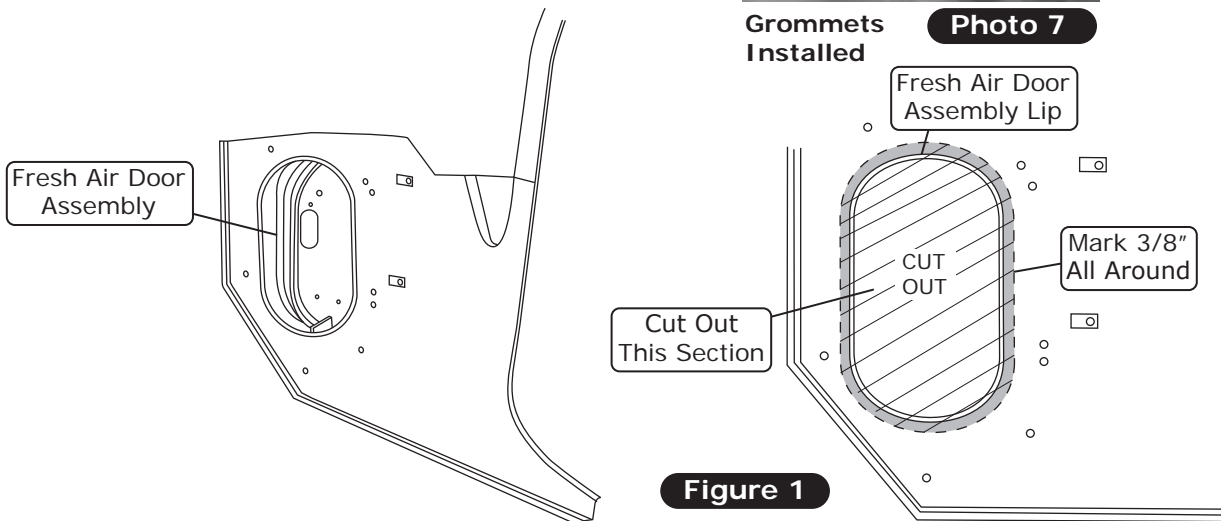

Figure 1
4. Install (3) large grommets, a 1 1/4" O.D. x 1" with 1/2" hole grommet and a 7/8" O.D. x 3/8" I.D. grommet into the kick panel (See Photos 6 and 7, below).
6. On the kick panel, mark 3/8" out from the fresh air door assembly lip around the entire perimeter of the fresh air door assembly as shown in Figure 1, below. Cut out the section as shown.